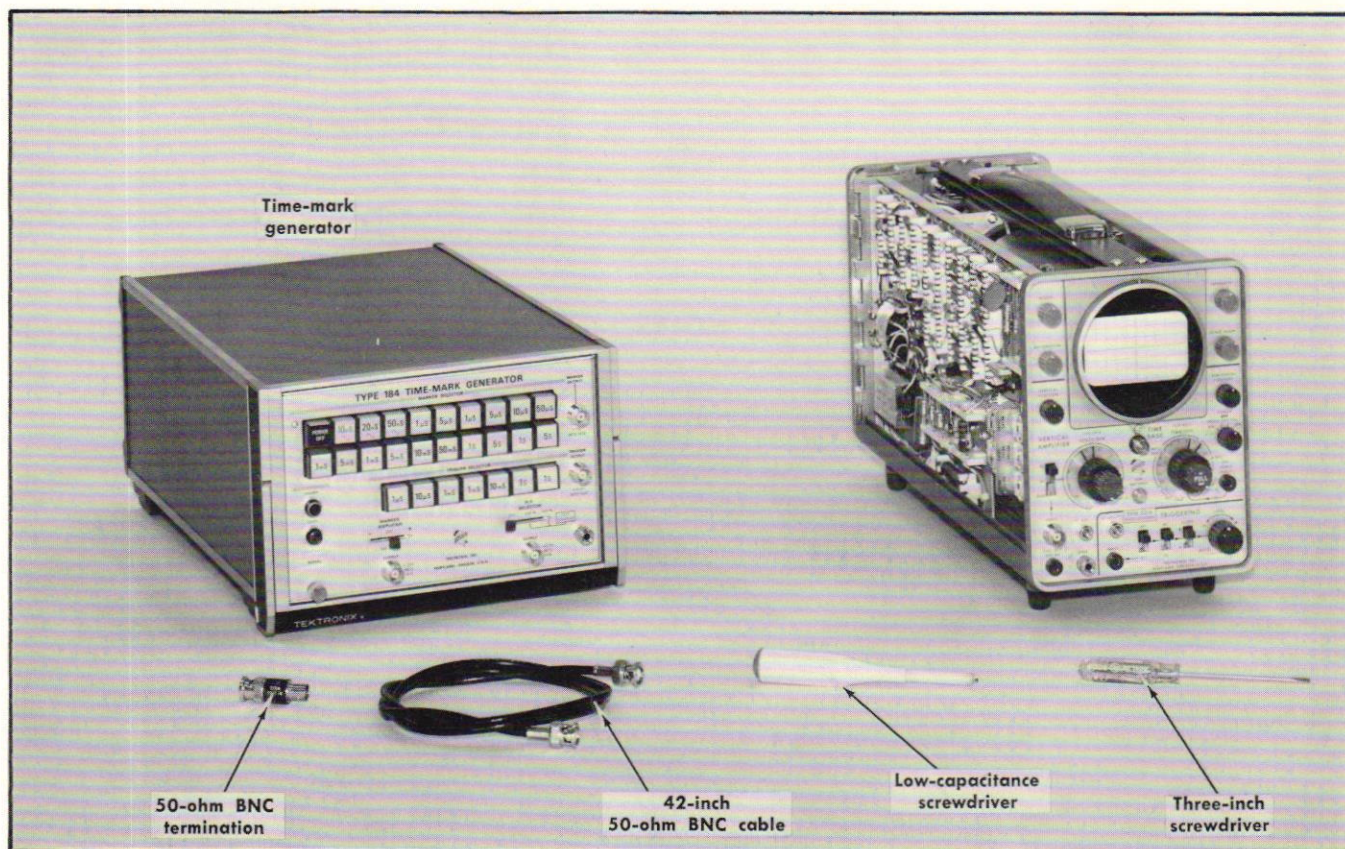

Fig. 5-15. Equipment required for steps 29 through 36.
a. Equipment required for steps 29 through 36 is shown in Fig. 5-15.